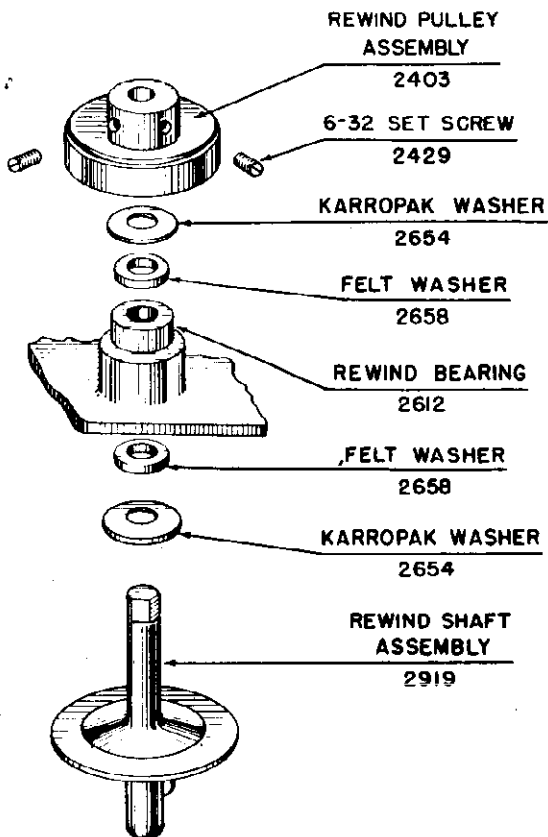

FIG. 9 - Rewind Assembly.
(SEE FIG. 9)
- (1) Disassembly: (See Fig. 9.) Loosen set screws (#2429). Lift rewind pulley assembly (#2403), karropak washer (#2654) and felt washer (#2658) from rewind shaft assembly (#2919). Slip rewind shaft assembly (#2919) out of bearing (#2612).
- (2) Inspection: Check rewind pulley (#2403) surface, rewind shaft (#2919) and bearing (#2612) for wear.
- (3) Repair: Replace worn parts.
- (4) Reassembly: Grease rewind shaft (#2919) with ANDOX "B" Grease. Assemble as shown in Fig. 9. Tighten set screws (#2429) against flats of rewind shaft (#2919), allowing 1/64 inch play along axis of shaft.